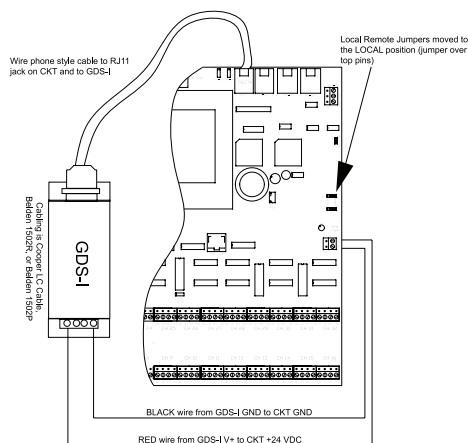

Figure 3. Digital Switch Gateway Wiring Detail
7. Ensure that the local remote jumpers have been moved to the local position (over pins 2&3) for both jumpers. (J9 & J10) to enable 24 VDC to the low voltage switch channels. See Figure 3 for location.